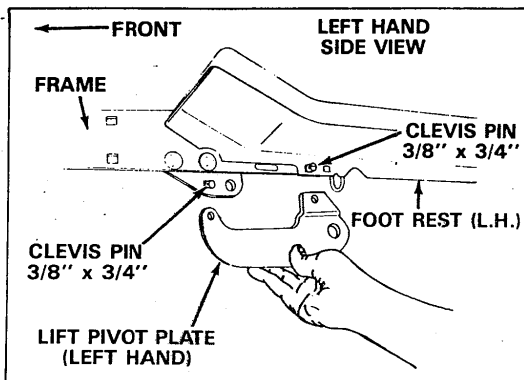

FIGURE 10
- Assemble left hand lift pivot plate (note offset, see figure 10) under left hand foot rest and outside of frame. Secure with two 3/8" x 3/4" clevis pins and two 3/32" (small) hairpin cotters. See figures 10 and 11. Do not assemble lift pivot plate under the right hand foot rest at this time.